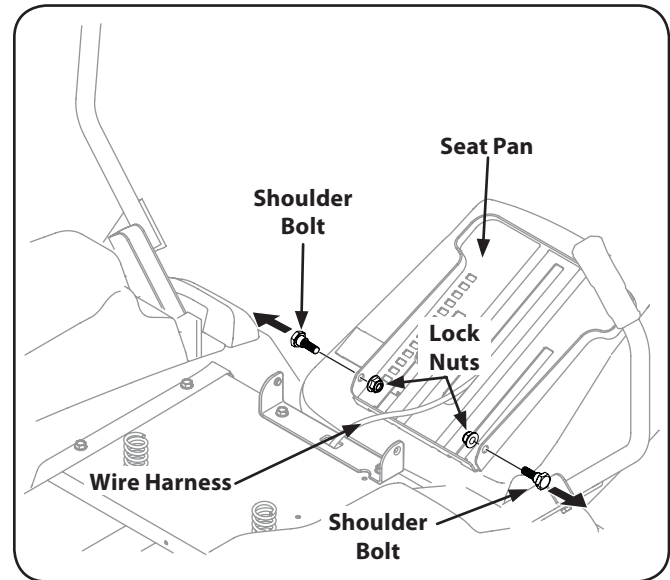

Figure 3-5
2. Remove the two shoulder bolts and lock nuts in the seat pan as shown in Fig. 3-5.